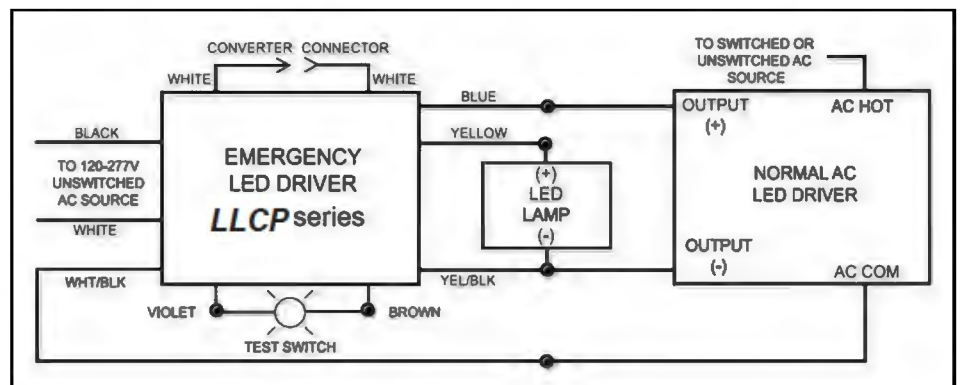

Figure 3
Refer to Figure 3.
**Refer to Figure 3.**